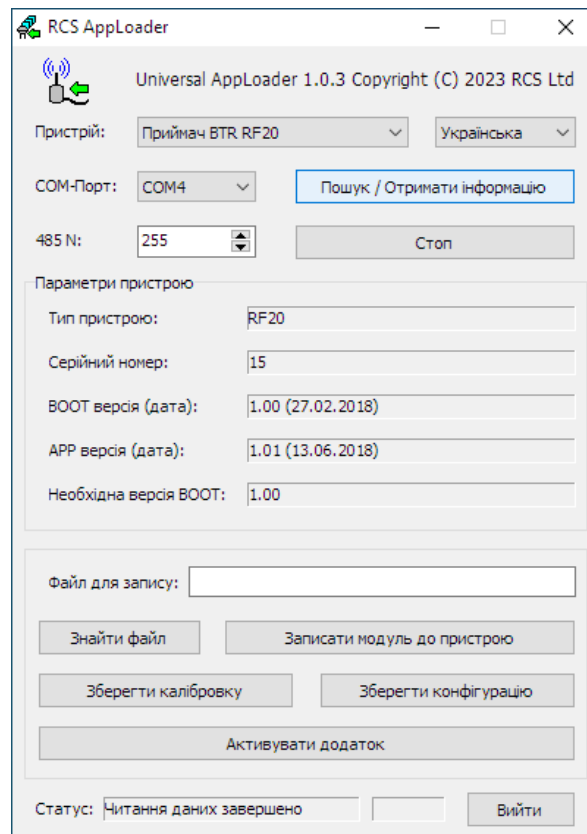

Figure D.2 – Read information about the Reader
D.5 Select COM port. You can find out the availability and numbers of ports on your PC here: "*Computer\Properties\Device Manager\Ports (COM and LPT)*". For For BTR4/BR4x models, select the RS-485 interface port. When connecting 2 or more Readers to a network, specify the device network address in the "485 N" field. For BTRx/BR2x/BR4x Reader models **necessarily** Turn off the device power. Press the "Search / Get Information" button and turn on the power. If the device is successfully detected, the search will stop, its type will be displayed in the "Device:" list, and the data of the connected device will appear in the "Device Settings" section (Fig. D.2).